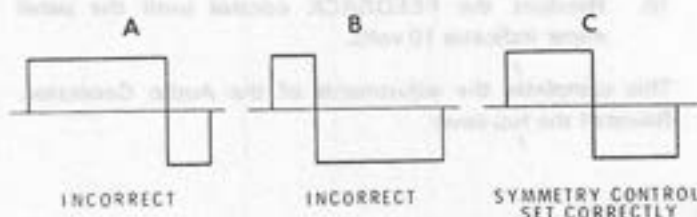

Figure 12 Symmetry adjustment waveforms.
23. Rotate the SYMMETRY control until the positive and negative halves of the square waveform are equal, as shown in part C of Figure 12.